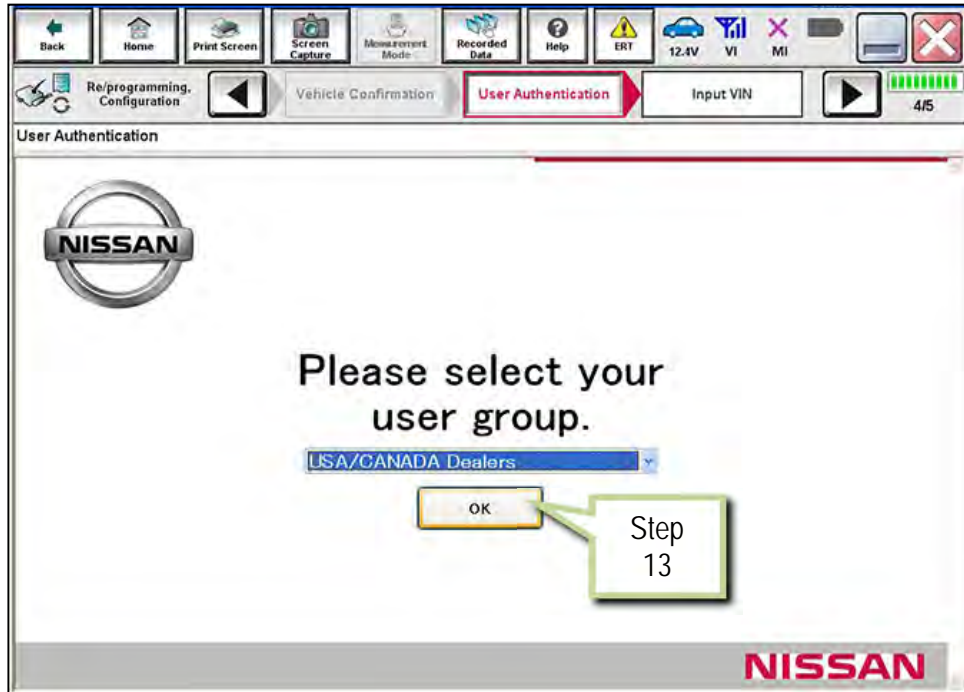
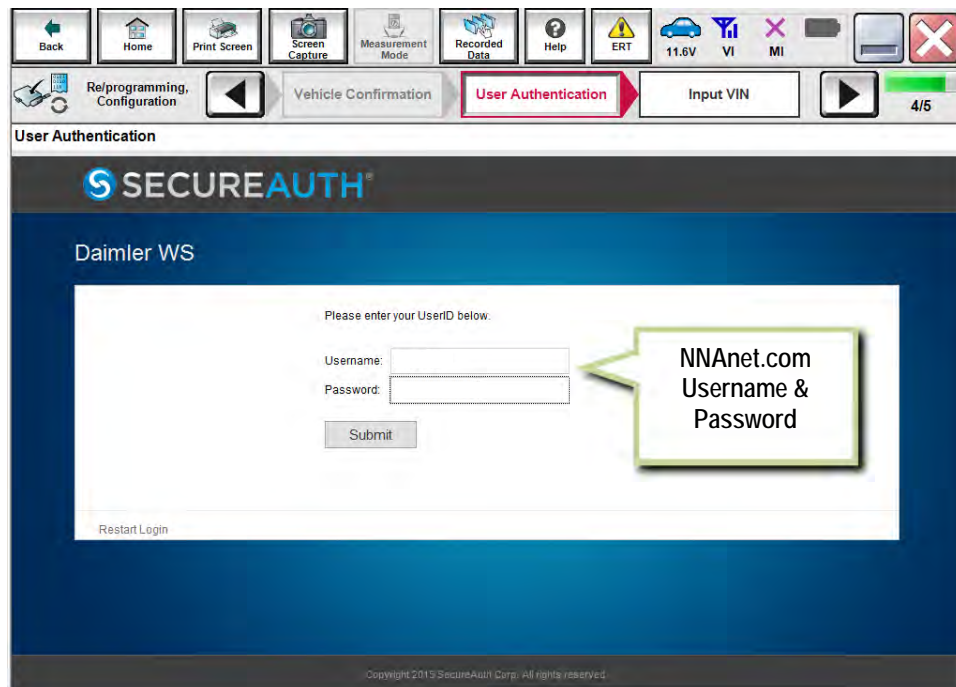

Figure 6
Figure 7
- The screen in Figure 6 will only appear during the first login on a CONSULT PC. Future logins with same CONSULT PC will display the screen in Figure 7 only.
- If the screen shown in Figure 6 does not display, proceed to step 14.